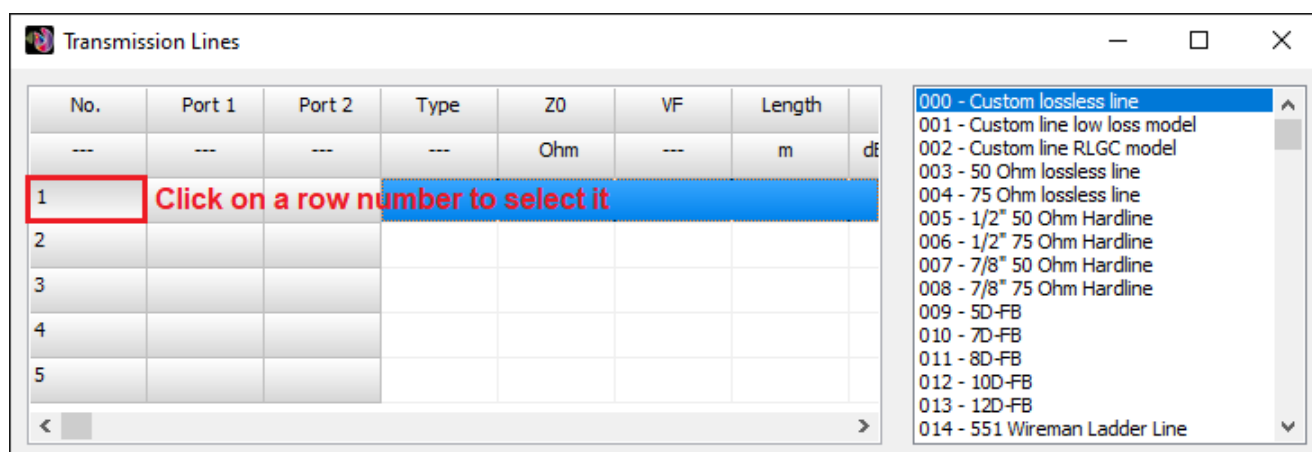

Fig. 2: Table for entering transmission lines. Rows are numbered. Click on a row number to select the entire row.
1. Select a row by clicking on the row number of your choice in the first column labeled ‘No.’, Fig. 2.